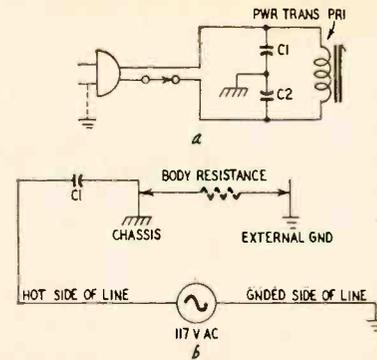

Fig. 8—Actual (a) and equivalent (b) circuits of power transformer primary with respect to chassis and ground.
e. Haphazardly increasing the capacitance of a line filter capacitor in a set using a power transformer. This increases the potential shock hazard of the chassis and should be avoided. The line filter (Fig. 8) connects the chassis to external ground through the capacitor. This places the chassis at ground potential for signal voltages but does not connect the chassis directly to ground for 60-cycle ac. Therefore, if the chassis and an external ground are touched simultaneously as shown in Fig. 8, only a fraction of the line voltage is applied across the body and a correspondingly smaller shock results. In most cases the shock is not perceptible. The line voltage divides across the capacitive reactance of the